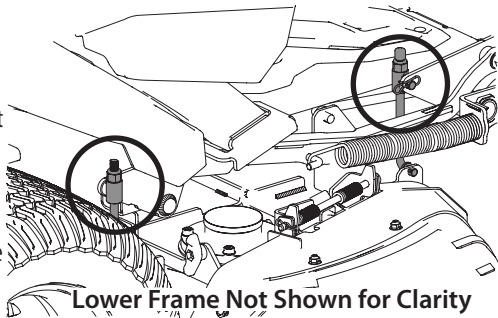

Figure 44
5. Locate the adjustment nuts on top of the deck lift rods on the left and right side of the tractor. There is one on each side at the front of the deck between the platform and lower frame tube, and one at each side of the rear of the deck near the front of the rear wheel. See Figure 44.